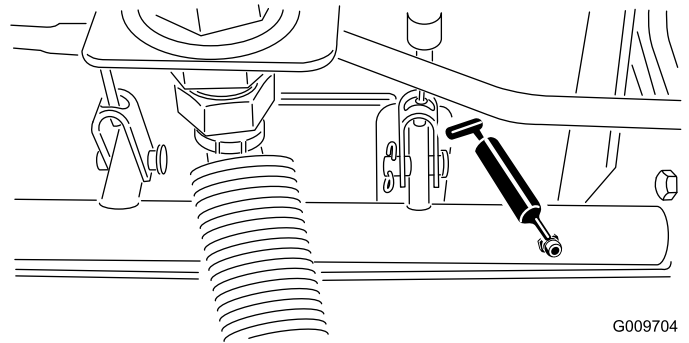

Figure 49
- Brake shaft pivot bearings (5) (Figure 49)